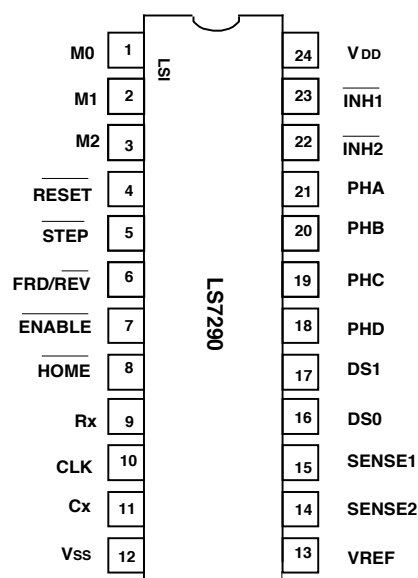

FIGURE 1
- **LS7290** (DIP), **LS7290-S** (SOIC), **LS7290-TS** (TSSOP) - See Figure 1 -